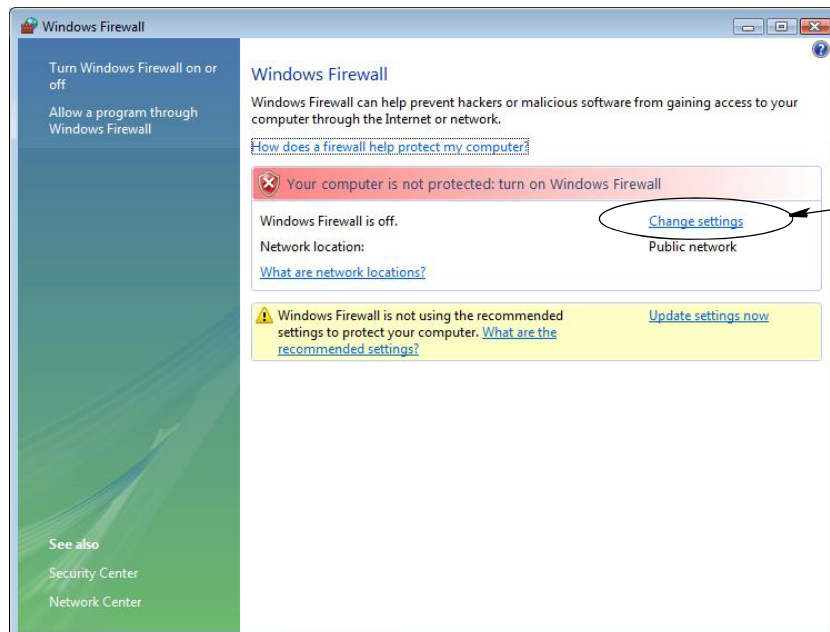

FIG. 33
2. Select Change Settings (FIG. 33).